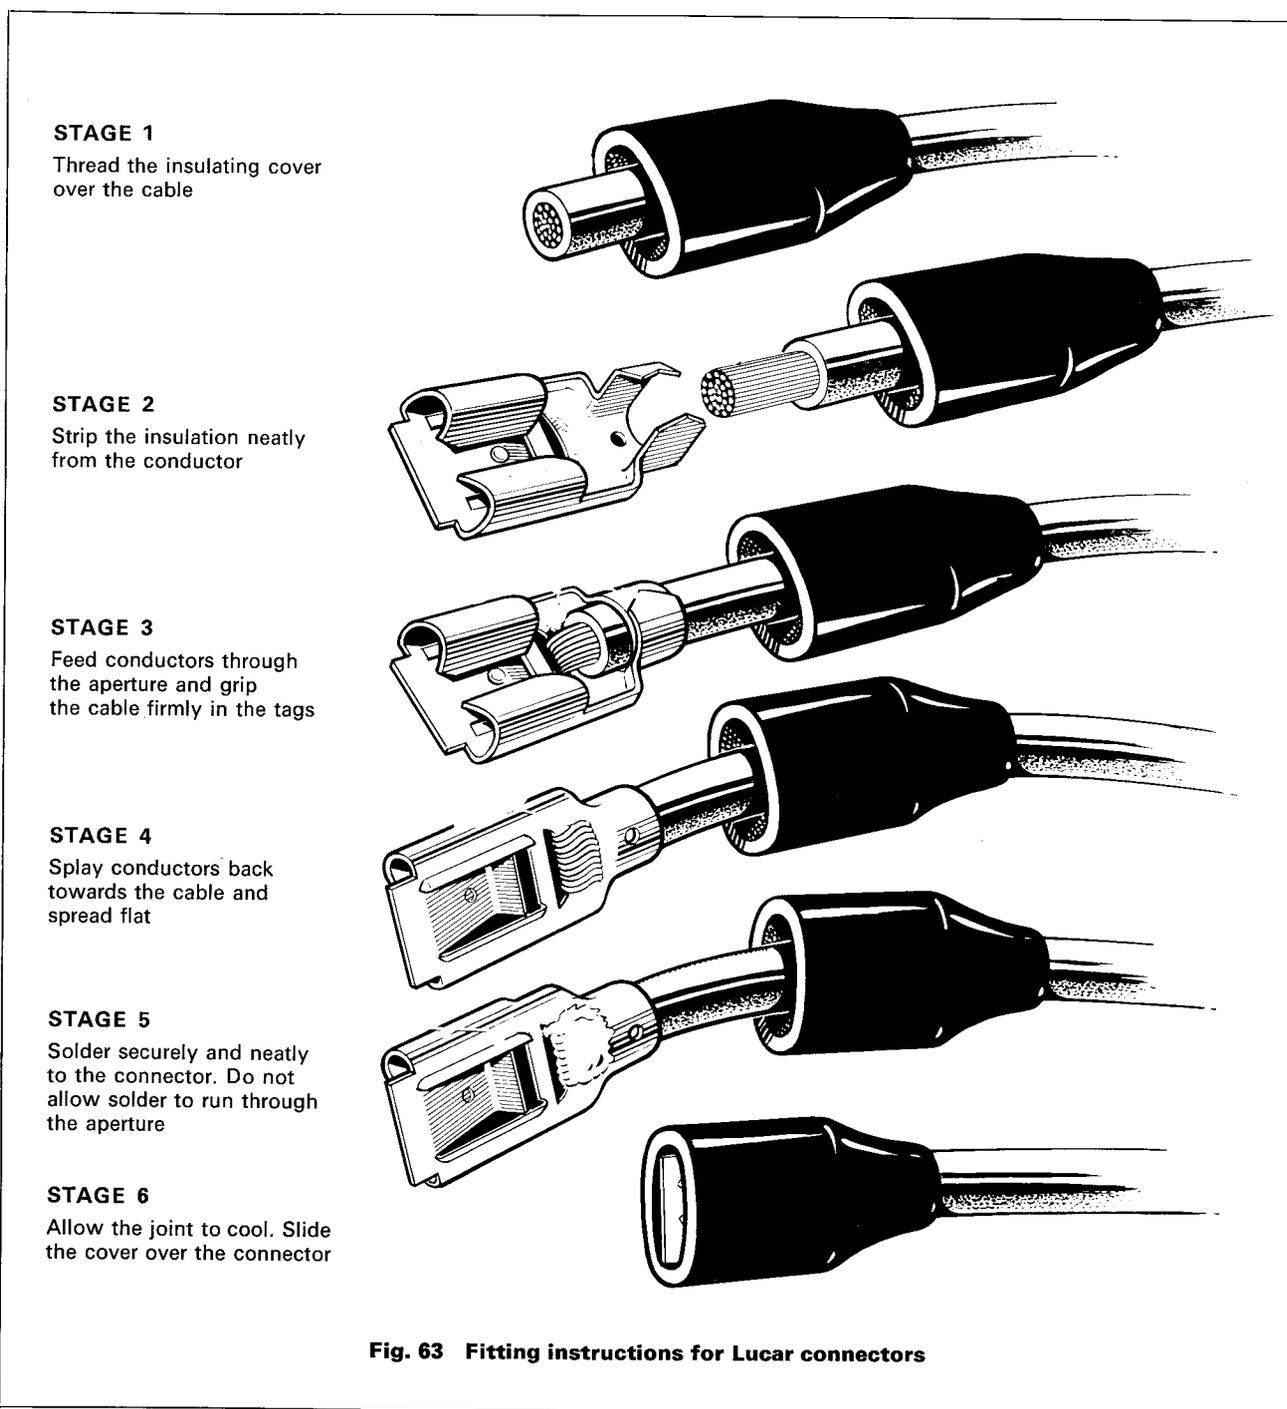

Fig. 63 Fitting instructions for Lucar connectors
**NOTE:** The method of fitting Lucar connectors to cables is shown stage-by-stage in Fig. 63.